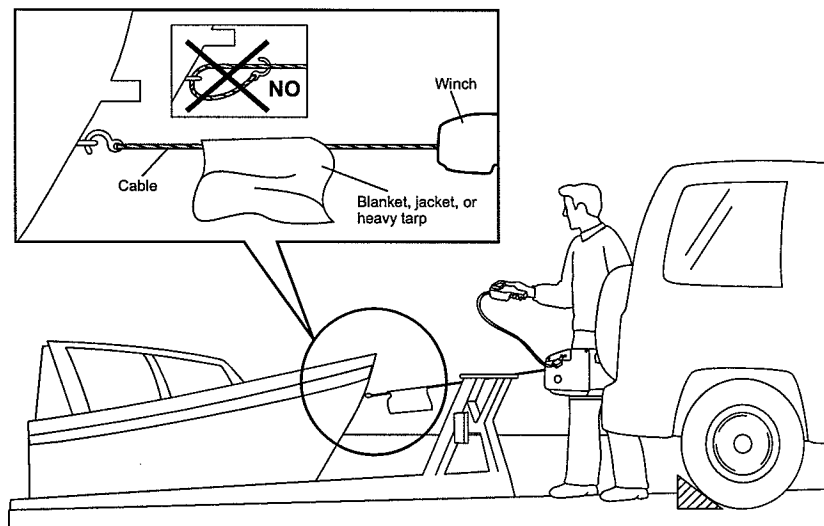

Fig. 6 Attach the safety hook to the load.
- Secure a heavy blanket or jacket on cable 3ft behind cable hook when winching to lessen the severity of a cable break (**see Fig. 6**).
3. Attach the safety hook to the load. Do not hook cable to itself (**see Fig. 6**).